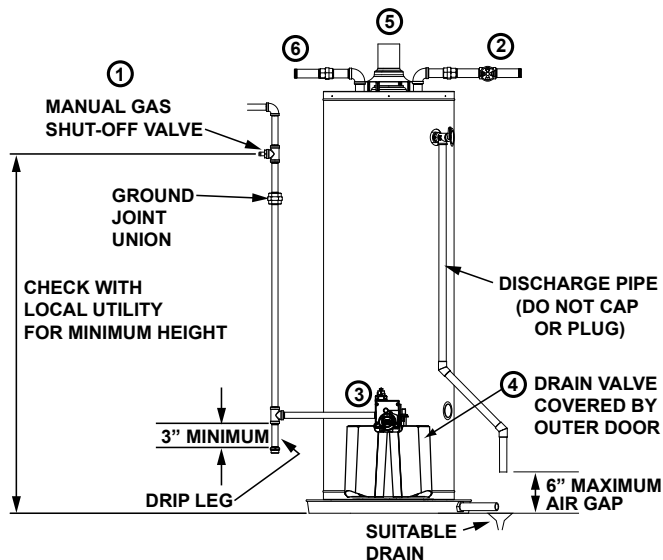

FIGURE 2.
4. Attach a hose to the water heater drain valve and put the other end in a floor drain or outdoors. (See Figures 2 and 5.) Open the water heater drain valve. Open a nearby hot water faucet which will relieve pressure in the water heater and speed draining. The water passing out of the drain valve may be extremely hot. To avoid being scalded, make sure all connections are tight and that the water flow is directed away from any person.
If the main gas line shutoff valve serving all gas appliances is used, also shut "OFF" the gas at each appliance. Leave all gas appliances shut "OFF" until the water heater installation is completed. See Figures 2 and 3.
2. Turn "OFF" the water supply to the water heater at the water shut off valve or water meter. Some installations require that the water be turned off to the entire house. See Figures 2 and 4.